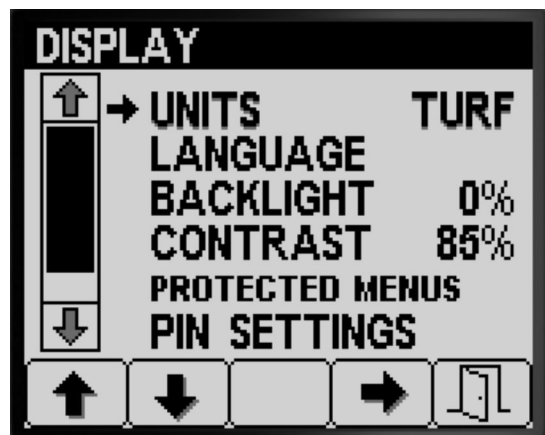

Figure 17
1. Press buttons 1 or 2 to navigate to the UNITS option (Figure 17).
2. Press button 4 to switch between ENGLISH, TURF, and SI units of measure (Figure 17).
3. Press button 5 to save the setting, exit the UNITS screen, and return to the Settings screen (Figure 17).